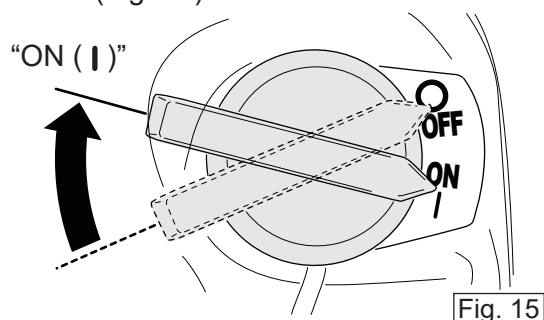

Fig. 15
5. Turn the engine switch to the "ON (I)" position. (Fig. 15)